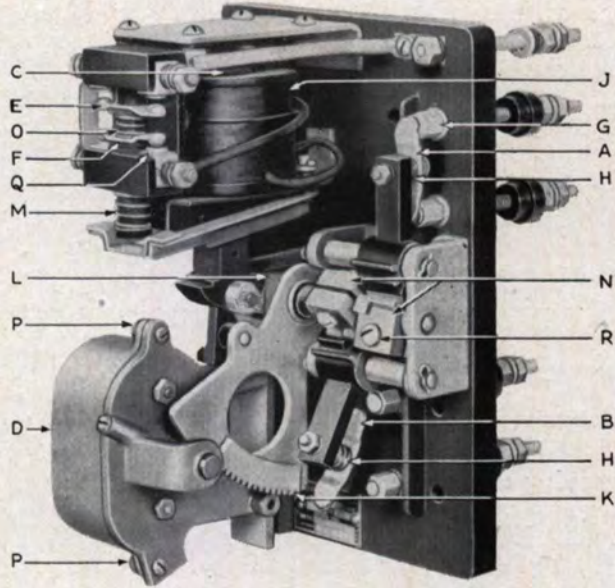

Fig. 1. CR2820-1729A Definite-time Relay
The CR2820-1729 relay must be mounted in a vertical position with the escapement mechanism at the bottom as shown in Fig. 1.
The relay shown in Fig. 1 has two contacts, (A) normally closed, and (B) normally open. A solenoid (C) has its plunger connected to an escapement mechanism (D). When the solenoid is energized, the mechanism and all contacts connected to it, whether normally open or normally closed, are actuated instantaneously by the solenoid plunger on the up stroke. When the solenoid is de-energized, the escapement mechanism provides time delay action for the contacts. In Fig. 1 the contact (A) has a time delay on closing, and contact (B) has time delay on opening. Other forms are available having various combinations of normally open and normally closed contacts, some forms having time delay after the solenoid is de-energized, and others having the time delay after the solenoid is energized.